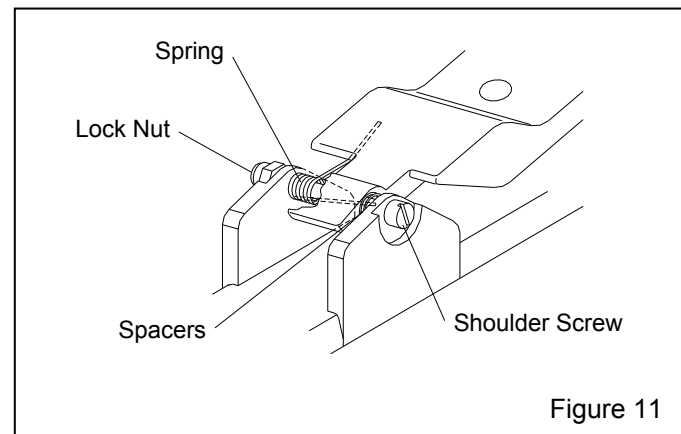

Figure 11
#### 4.5 Control Lever Replacement – Figure 11
**4.5.1** Remove the lock nut from the shoulder screw. Before removing the screw, note the positions of the spacers and spring as shown in Figure 11. The bent end of the spring is against the control lever, facing up. The straight end is against the body, facing down. The spring and spacers must be placed correctly when reinstalling the handle.